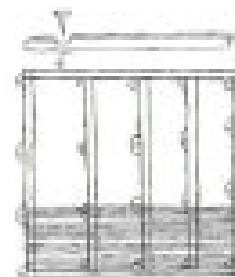

Fig. 3. Base frame, floor joists and first layer of wall boards.
- Screw the first layer to the base frame. Let the bottom board overhang the base frame by 3–5 mm so rainwater drips off and does not run under the wall (fig. 3).